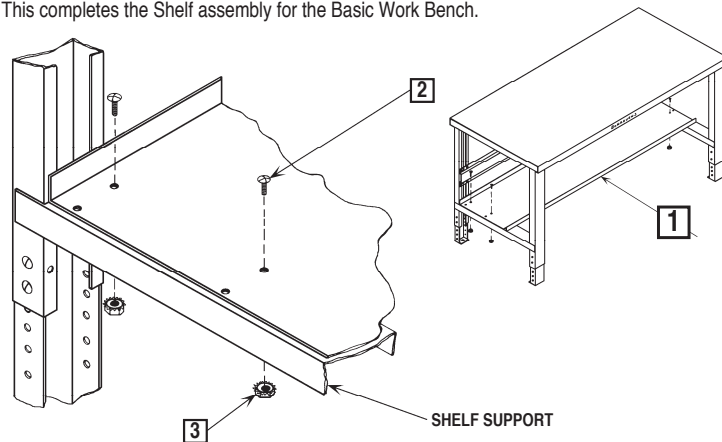

FIGURE 10
Place the shelf (Item 1) on the shelf supports between the legs of the work bench with the back edge of the shelf (the edge with the 90° flange is the back) approximately .062 (1/16") from the back legs of the work bench. Position shelf so the two inner holes on each end of the shelf are in line with the two inner holes of each shelf support. Fasten the shelf to the shelf supports with (4) screws and nuts (Items 2 & 3) as provided in **hardware pack 2**, two each end. See Figure 10.